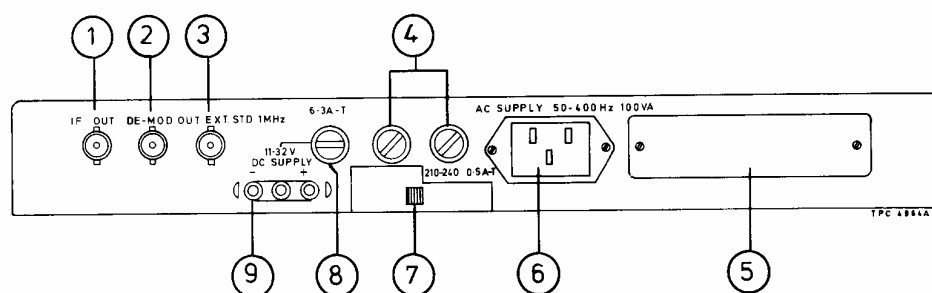

Fig. 3-2 Rear panel connectors
- (1) Select TX ①. TRANSMITTER TEST is written on the screen.
- (2) Connect the transmitter output to the N-type connector ⑧. Alternatively, connect the telescopic aerial option to the BNC connector ⑦.
- (3) The instrument automatically tunes to the transmitter's frequency. If required, the transmitter may be tuned for minimum or zero indicated offset using the 2955—see 'Transmitter frequency adjustment'.
- (4) Press SELECT ⑥ until the l.e.d. lights above the N-type connector ⑧ or the BNC connector ⑦.
- (5) Select modulation type FM ③, AM ④, or \emptyset M ⑤. If greater than 50% a.m. is applied, there is a possibility that false readings will occur. Use keyboard tuning of the modulation meter as for 'Transmitter frequency adjustment'.
- (6) Press BAND PASS ⑫ to select the 0.3–3.4 kHz b.p. filter or press LOW PASS ⑩ once or twice as necessary to select a 300 Hz or 15 kHz l.p. filter.
- (7) If required, modulate the transmitter's carrier by connecting the AF GEN OUTPUT socket ⑪ to the microphone input of the transmitter. Set the frequency and level (see under 'AF generator operation').
- (8) Rear the displayed % depth for a.m. or the deviation and symmetry for f.m. and \emptyset .m.
- (9) Adjust VOLUME control ⑬ to monitor the demodulated signal using the internal loudspeaker, or an external loudspeaker or earphones via the ACCESSORY socket ⑨.
- (10) The demodulated output is available at the rear DE-MOD OUT socket—see Fig. 3-2.